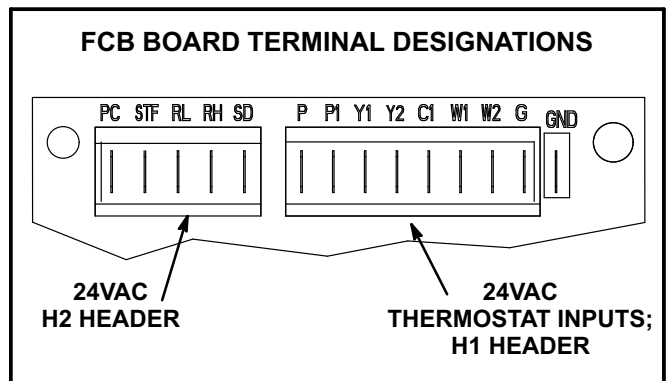

FIGURE 25
- 3- Check for 24VAC signal at the thermostat blower input (G to GND terminal). See figure 25.